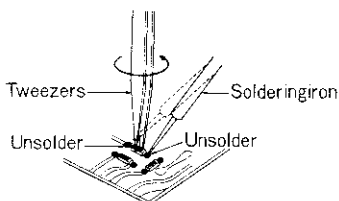

Fig. 8
2. Remove the chip by wiggling it with a pair of tweezers while removing solder, as shown in fig. 8.